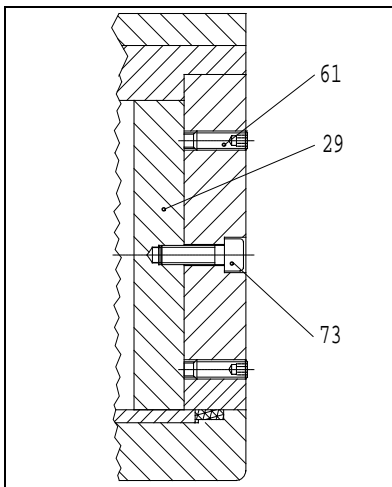

Fig.11
- Remove cheesehead screws **73**. **Fig.11**